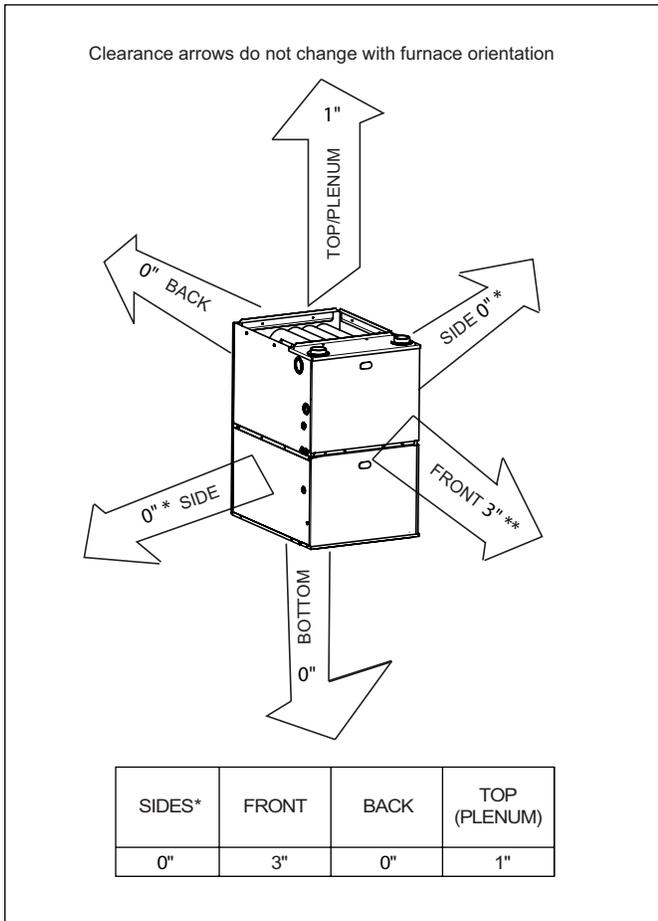

Figure 3 Minimum clearance from combustible construction
See Section 3, Fig. 3 for required clearances to combustible construction.
This furnace may be installed on combustible flooring in alcove or closet at minimum clearance as indicated by Figure 3.
- Not be installed directly on any combustible material other than wood flooring. Refer to Section 3 Fig 3. for required clearances.
- Be provided ample space for servicing and cleaning. Always comply with minimum fire protection clearances shown on the furnace clearance to combustible label. Refer to Section 3, Fig 3.